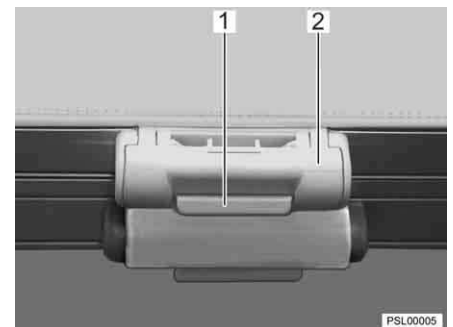

Fig. 21 Blind lock on the hinged sliding roof
- Hold the insect screen at the handle and press the unlocking bar (Fig. 21,1) on the handle (Fig. 21,2). The lock is released.